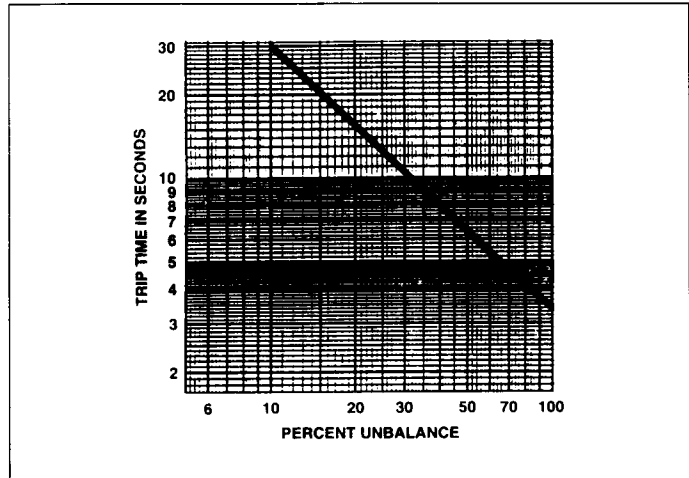

Fig. 3 Phase Unbalance Trip
**Phase Unbalance** – Positions 6 and 5 of DIP switch 2 are used to program the conditions required to cause a phase-unbalance or phase-loss trip. Phase unbalance is defined by the formula shown below. Phase-loss is an extreme case of phase unbalance, i.e., greater than any phase unbalance value selected. Trip time is shown in Fig. 3. Minimum FLA for Phase Unbalance trip is 45%.